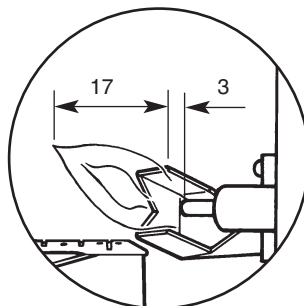

Fig. 82
11. The sparking will continue until the pilot light is established (Fig. 82) and then the main burner will light from the pilot flame.